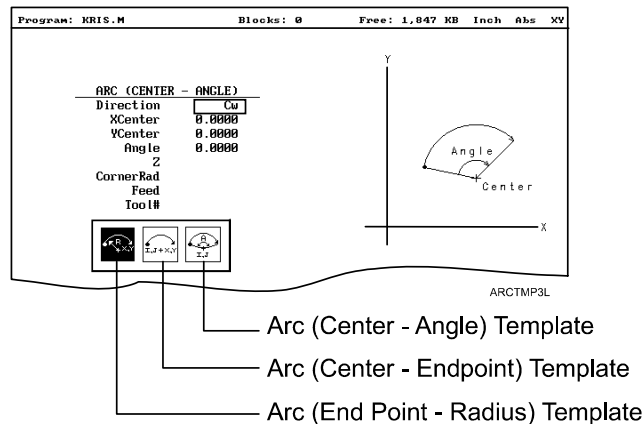

Figure 4-15, Arc Template Pop-Up Menu
2. Press **More... (F4)** to display the Arc template pop-up menu. Refer to **Figure 4-15, Arc Template Pop-Up Menu**.
3. Press **More... (F4)** to display the Arc Template pop-up menu. (Refer to **Figure 4-15**).
2. Press **More... (F4)** to display the Arc Template pop-up menu. (Refer to **Figure 4-15, Arc Template Pop-Up Menu.**)
3. Press **More... (F4)** to display the Arc template pop-up menu. Refer to **Figure 4-15, Arc Template Pop-Up Menu.**